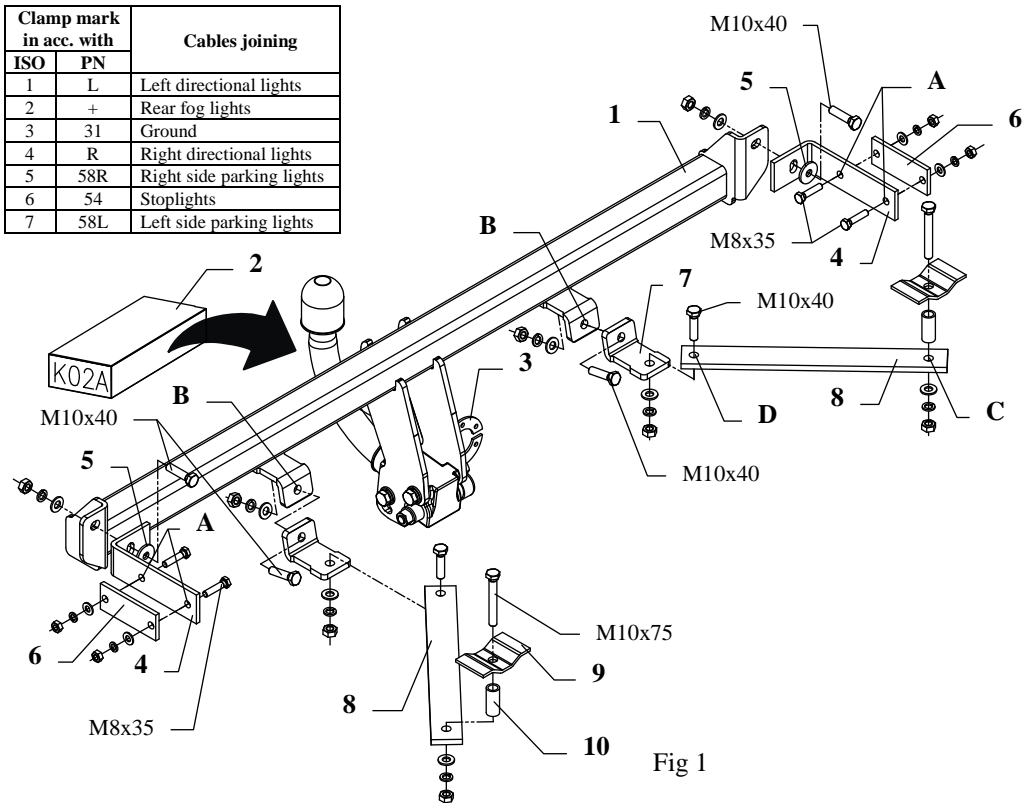
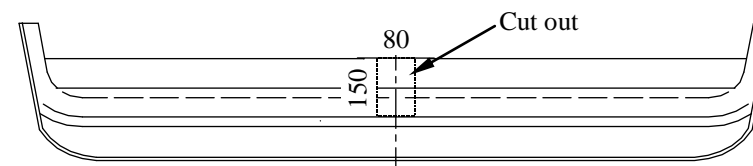

Fig 1
Fig. 2
3. Apply the main bar of the towbar (pos. 1) on bored holes and fix using bolts M10x40mm (pos. 12) through brackets (pos. 4), which one ought to place inside the trunk (on the right and left side). Use washers $\phi 30 \times \phi 10,5 \times 2,5\text{mm}$ (pos. 5).
4. Through holes (pos. A) of brackets (pos. 4) drill holes $\phi 9\text{mm}$ and then fix using bolts M8x35mm (pos. 13) through plate (pos. 6).
5. Through holes (pos. B) of the towbar drill (in the back piece) holes $\phi 11\text{mm}$ and fix with bolts M10x40mm (pos. 12) through angle brackets (pos. 7), which one ought to place from the internal side of the back piece, as showed on the fig. 1.
6. In the chassis member are holes $\phi 11\text{mm}$ (from the bottom of the car by piece from the right and left side), which one ought to drill throughly with the bit $\phi 11\text{mm}$. Then, in part trunk, drill on the diameter $\phi 17\text{mm}$. Into so prepared holes put distance sleeves L=39mm (pos. 10), apply fish-plates (pos. 9) and put bolts M10x75mm (pos. 11), as showed on the fig. 1.
7. So prepared elements of the towbar fix with jibs (pos. 8) in marked points (pos. C and D).
8. Install the bumper after cut out of its fragment 80x150mm, as showed on the fig. 2.